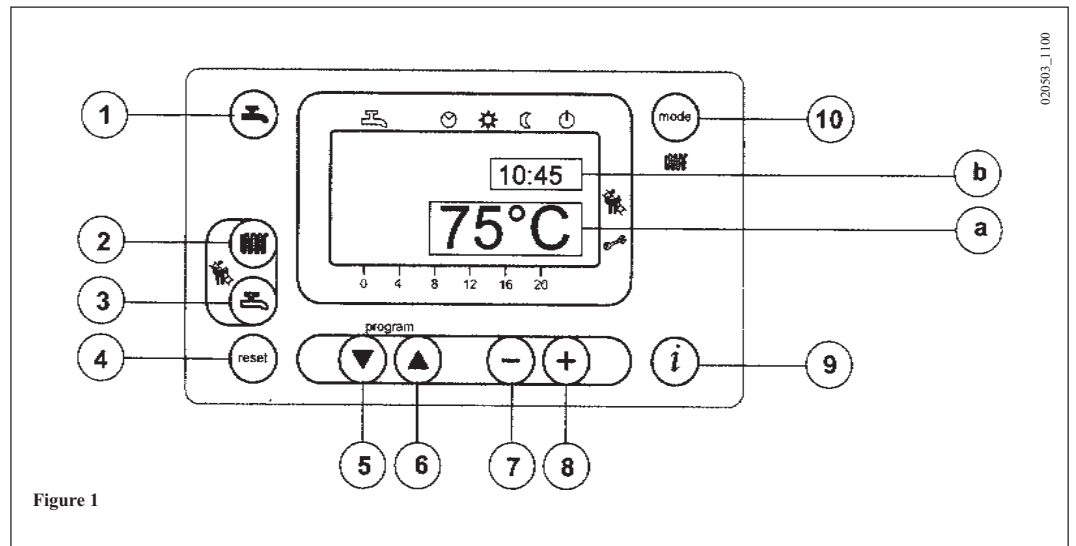
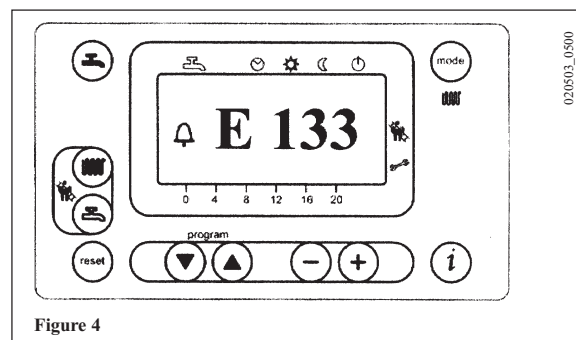
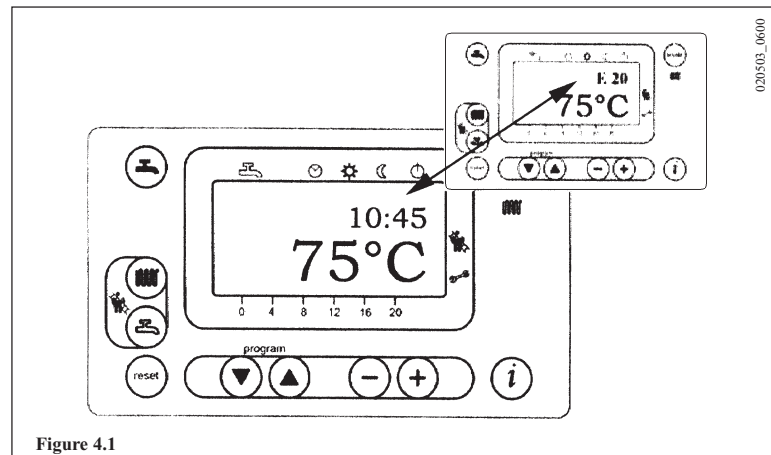

Figure 1
Figure 4
Figure 4.1
- Press the  key (2-figure 1) to set the central heating water temperature;
- press either of the   keys (1 or 10 - figure 1) to save and return to the main menu.
N.b – With the outdoor sensor probe connected, the  key (2 - figure 1) can be used to shift the central heating curve. Press the   keys to decrease or increase the room temperature in the premises to be heated.
- Press the  key (3-figure 1) to set the maximum domestic hot water temperature;
The fault warnings appear on the main display (figure 1 a) together with the  symbol (Figure 4).
Fault warnings appear on the secondary display (figure 1 b) alternating with the time, both of them flashing (figure 4.1). It is not possible to reset malfunction warnings which appear on the secondary display as the cause of the alarm has first to be removed.